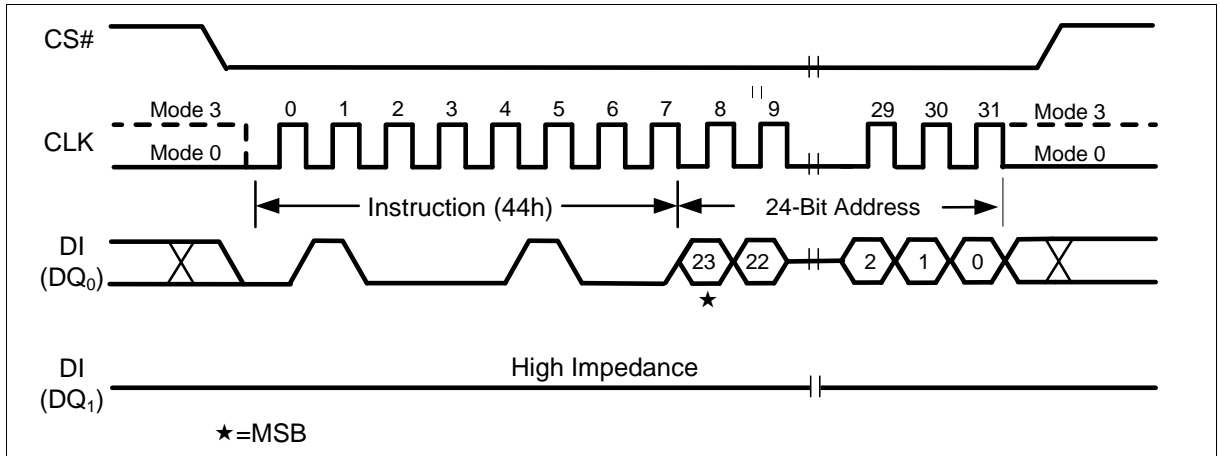

Figure 59 Erase Security Sector Instruction (SPI Mode only)
The Erase Security Sector instruction sequence is shown in Figure 59. The CS# pin must be driven high after the eighth bit of the last byte has been latched. If this is not done the instruction will not be executed. After CS# is driven high, the self-timed Erase Security Sector operation will commence for time duration of  $t_{SE}$  (See “12.6 AC Electrical Characteristics”). While the Erase Security Sector cycle is in progress, the Read Status Register instruction may still be accessed for checking the status of the WIP bit. The WIP bit is a 1 during the erase cycle and becomes a 0 when the cycle is finished and the device is ready to accept other instructions again. After the Erase Security Sector cycle has finished the Write Enable Latch (WEL) bit in the Status Register is cleared to 0. The Security Sector Lock Bit (LB) in the Status Register-2 can be used to OTP protect the Security Sectors. Once the LB bit is set to 1, the Security Sector will be permanently locked, Erase Security Sector instruction will be ignored.